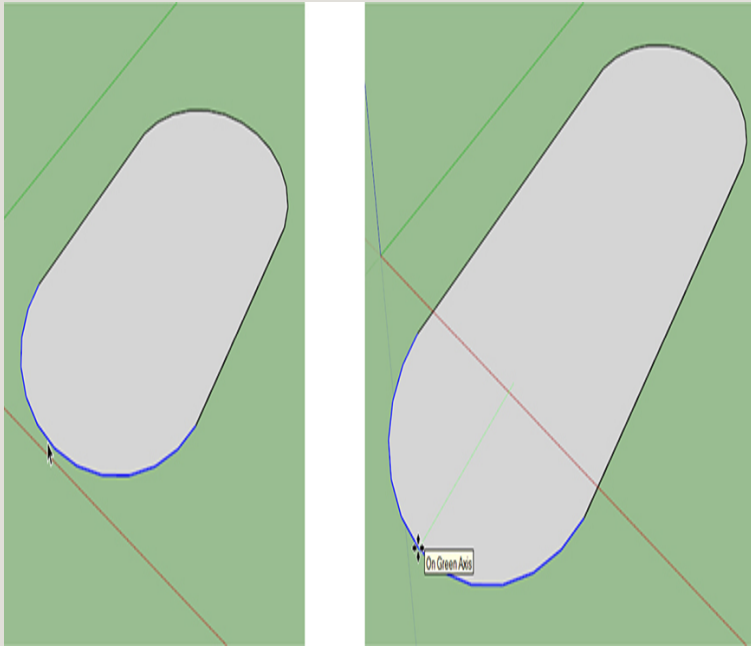

Figure 4-29 To make the nail longer, select an arc, and stretch it with the Move tool.
- 5. OPTIONAL:** If you want to extend the nail's length, select an arc, click the Move tool on it, and stretch it along the green axis (Figure 4-29). If you want to customize the top of the nail with any kind of geometry, now is the time to do it.